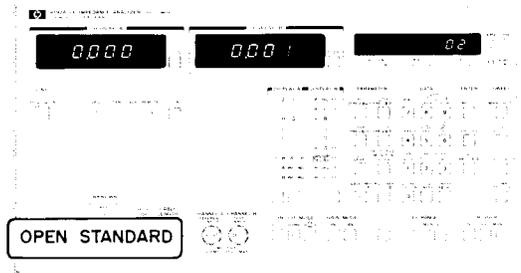

Figure 5-17. A1 Phase Tracking Adjustment Setup.
- Directly connect the OPEN Standard to the UNKNOWN terminals of the 4192A as shown in Figure 5-17.